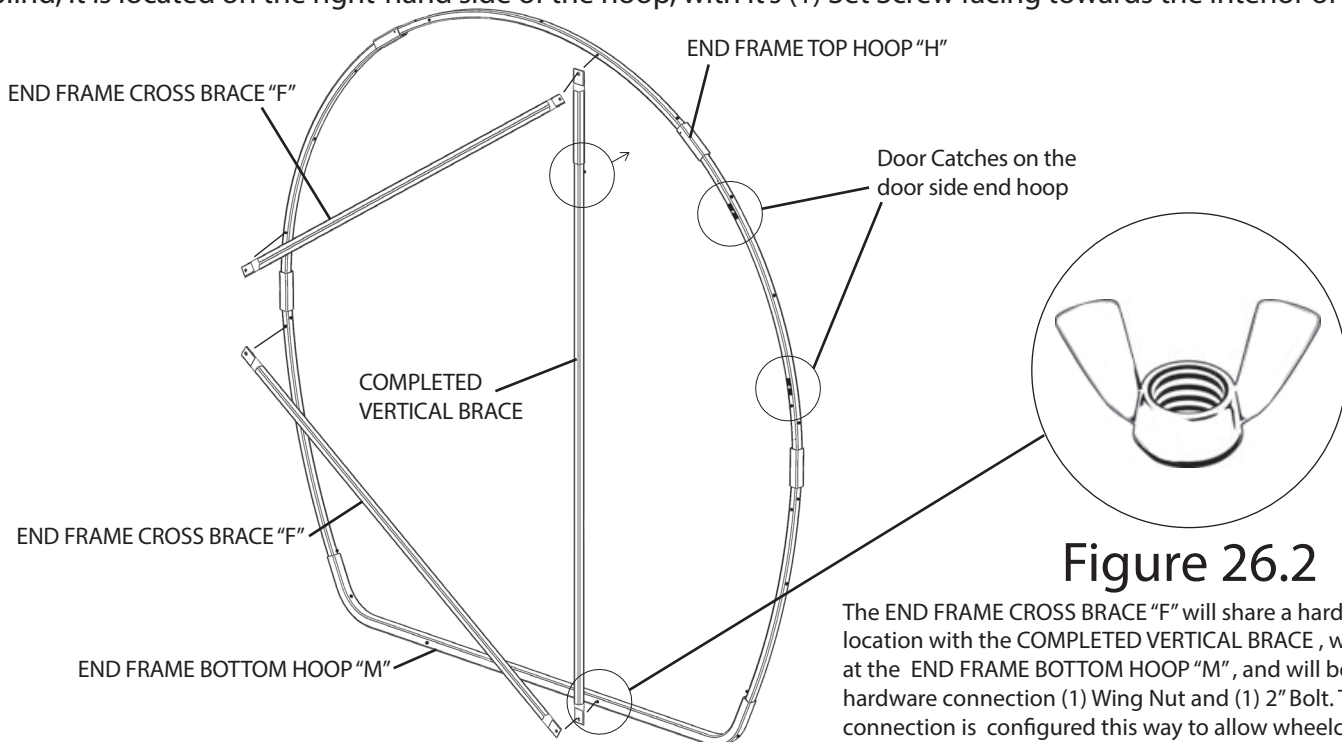

Figure 26.1
STEP 18: Locate the (3) parts that will be assembled to create the support system for the door side end hoop, the side with the Magnet in it’s configuration. These parts are (1) COMPLETED VERTICAL BRACE and (2) END FRAME CROSS BRACE “F”. In this step you will also use the (1) Wing Nut and (1) 2” Bolt. All parts installed on this step are to be assembled on the outside of the existing frame, and the (2) END FRAME CROSS BRACES “F” will share a hardware connection location with the COMPLETED VERTICAL BRACE , where they join at the END FRAME BOTTOM HOOP “M” and END FRAME TOP HOOP “H”. Were the hardware connection is shared on the END FRAME BOTTOM HOOP “M”, this location will require (1) Wing Nut and (1) 2” Bolt. Make sure the COMPLETED VERTICAL BRACE is installed in such a way, that when viewed from the exterior of the blind, it is located on the right-hand side of the hoop, with it’s (1) Set Screw facing towards the interior of the blind.
Begin by starting at the bottom of the frame. Align and fasten the hole ends of the COMPLETED VERTICAL BRACE and (1) END FRAME CROSS BRACE "F" where they share a hardware connection at the END FRAME BOTTOM HOOP "M", and fasten with the (1) Wing Nut and (1) 2" Bolt, as illustrated in Figure 26.1 & 26.2. Next align and fasten the top part of the COMPLETED VERTICAL BRACE and the other (1) END FRAME CROSS BRACE "F" to the right-hand side corresponding hole in the END FRAME TOP HOOP "H", fastening with (1) 1.5" Bolt and (1) Nut. Then align and fasten the bottom END FRAME CROSS BRACE "F" to the corresponding hole in the END FRAME LOWER SIDE HOOP "K", fastening with (1) Bolt and (1) Nut, as illustrated in Figure 26.1. Finally align and fasten the top (1) END FRAME CROSS BRACE "F" to the corresponding hole in the END FRAME UPPER SIDE HOOP "J", fastening with (1) Bolt and (1) Nut.
NOTE: All parts installed on this step are to be assembled on the outside of the existing frame, and the END FRAME CROSS BRACE "F" will share a hardware connection location with the COMPLETED VERTICAL BRACE, where they join at the END FRAME BOTTOM HOOP "M", connecting at this location with the (1) Wing Nut and (1) 2" Bolt, as illustrated in Figure 26.1 & 26.2.